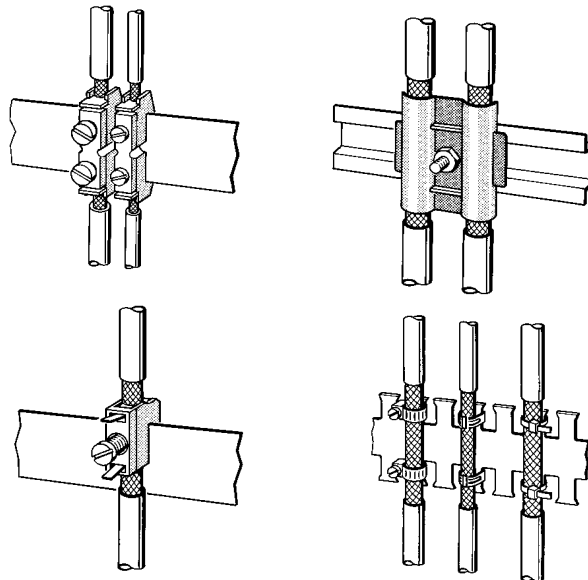

Figure C-3 Securing Shielded Cables with Cable Clamps and Ties (schematic representation).
- The clamps must make good and large-area contact with the shield (see Figure C.3 ).